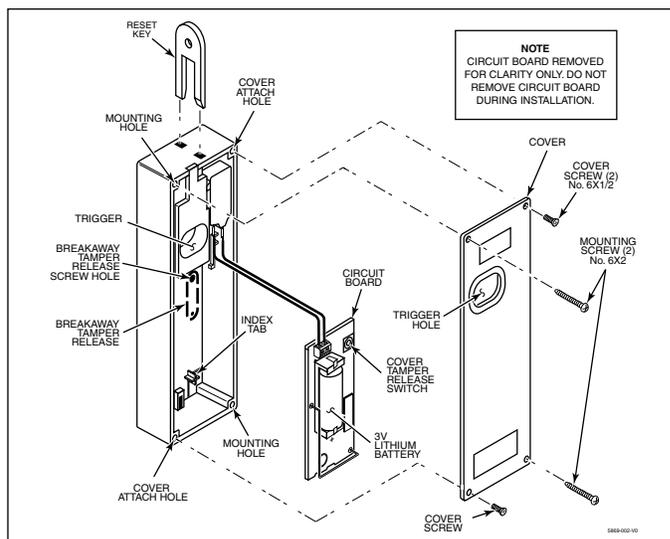

FIGURE 2
3. Drill a 1/16-inch pilot hole at the breakaway tamper release hole and the two case mounting holes (Figure 2).
7. Secure the assembled case to the counter or drawer using the two No. 6 x 2 mounting screws supplied (Figure 2).